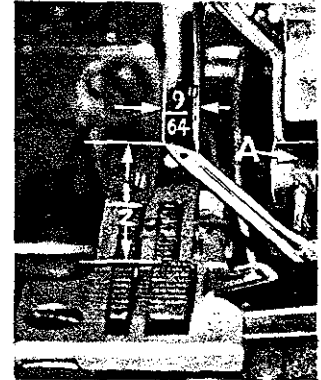

Fig. 10
Next, turn handwheel until looper is at the left end of its travel; check dimensions of upper looper point with respect to needle and throatplate (Fig. 10). If resetting is necessary, do it by moving the upper looper holder (A, Fig. 10). Figure 10 represents the dimensional setting for Styles 39500 FS, FT, FU, and GT.
If it becomes necessary to move looper thread pull-off (AF), be sure to take up all end play in needle drive shaft before tightening. If upper looper is located so that it is higher over throat plate than recommended in (Fig. 10), the purl will tend to form near top edge. If upper looper is too low, the purl will form nearer bottom edge.